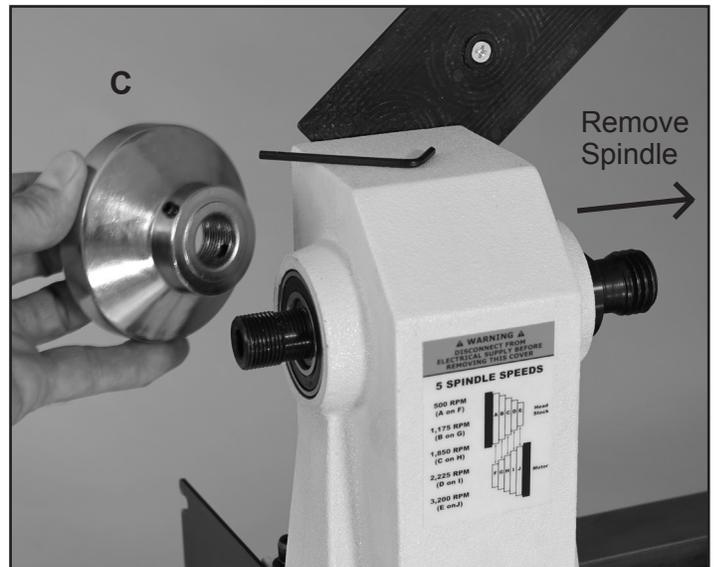

FIG. 15
5. Loosen the set screws that attaches the hand wheel (C) to the spindle, and remove the hand wheel. FIG. 15.